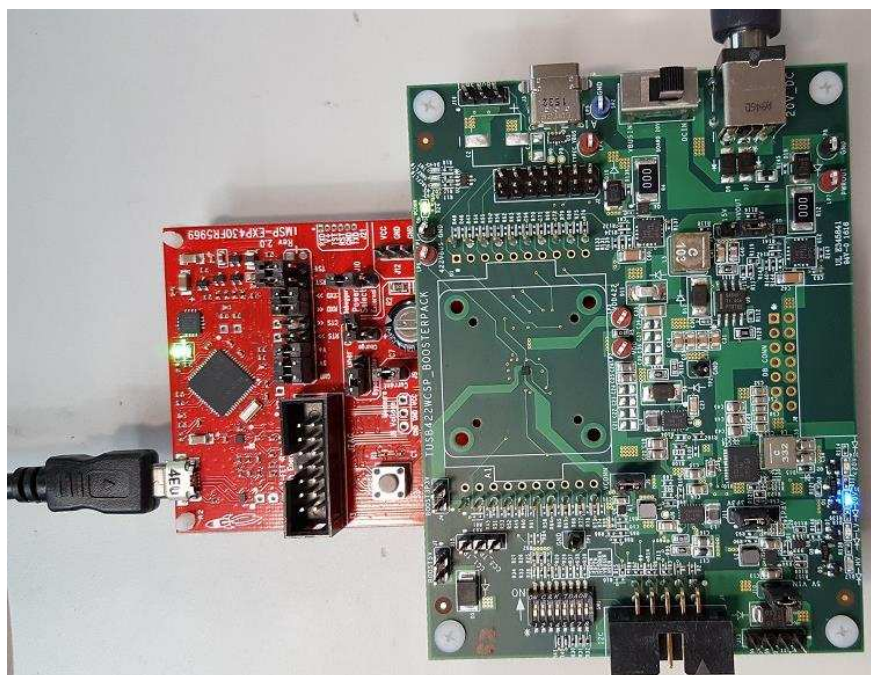

Figure 2. MSP430 LaunchPAD With TUSB422 BoosterPack
2. Plug the TUSB422 BoosterPack into the MSP43x LaunchPAD. An example illustration with the MSP430 LaunchPAD with TUSB422 BoosterPack connection is shown in Figure 2: